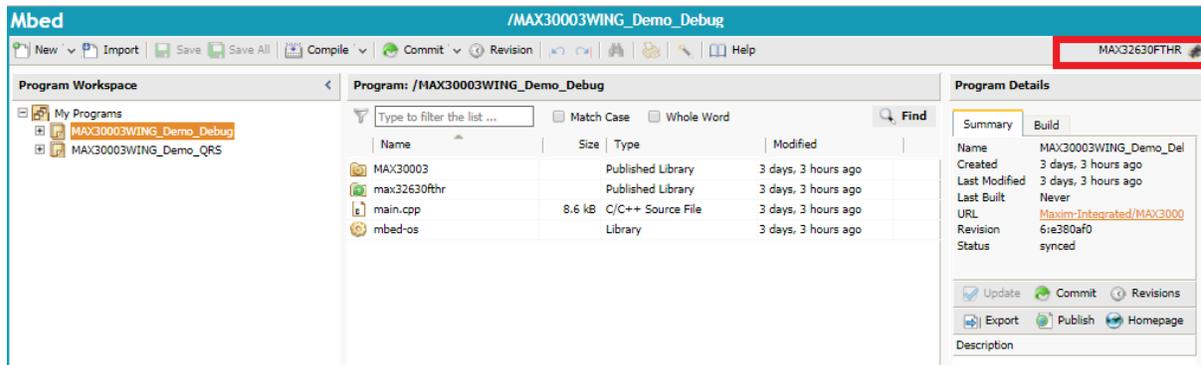

Figure 5. Highlights the target microcontroller selection area of the *Mbed* compiler window.
6. Select the desired example program in your program work space. In the upper right corner, the target microcontroller is displayed. Confirm the MAX32630FTHR is the target microcontroller. **Figure 5** highlights the location of the target microcontroller on the compiler webpage with a red box. If the MAX32630FTHR is not selected, click this area to select a target microcontroller. Once clicked, the selection window appears; select the MAX32630FTHR.